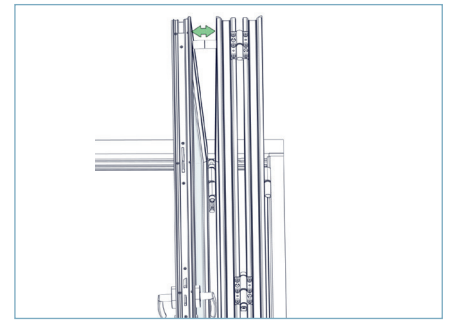

FIG 15A
- ▶ **15.3** Position the complete magnetic keep up between the top of both doors and move along until it is wedged between them, as shown in FIG 15A.